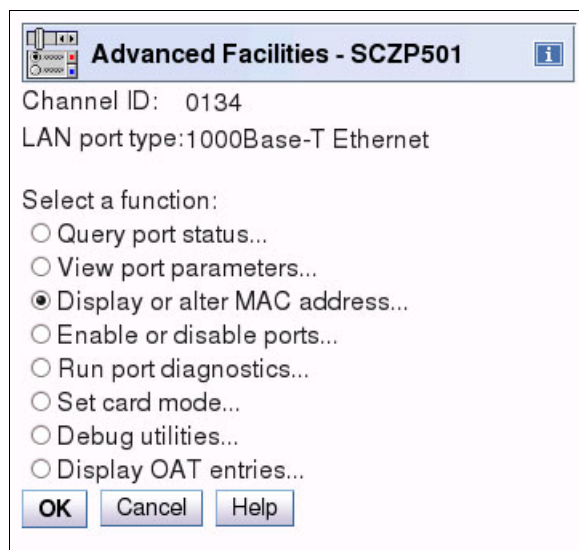

Figure 14-101 OSA Advanced Facilities: display or alter MAC address
- The Advanced Facilities panel opens (Figure 14-101). Select **Display or alter MAC address** and then click **OK**.